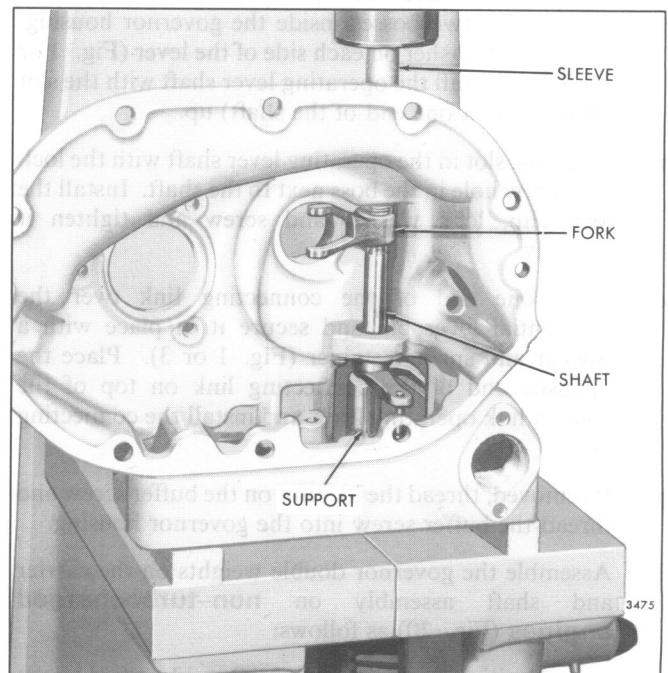

Fig. 20 – Installing Governor Operating Shaft Fork on Shaft
- f. Support the governor housing and operating shaft assembly on the bed of an arbor press with the upper end of the operating shaft resting on a steel support (Fig. 20). Place a 7/16" inside diameter sleeve over the end of the shaft and against the fork, then press the fork tight against the shaft spacer on the shaft.
(Fig. 20). Place a 7/16" inside diameter sleeve on the inner race of the bearing and press the bearing on the shaft until it seats on the shoulder in the housing.
3. Assemble the governor double weights on the carrier and shaft assembly on **non-turbocharged engines** (Fig. 20) as follows:
4. Assemble the governor double weight and shaft assembly on **turbocharged engines** (Fig. 20) as follows: